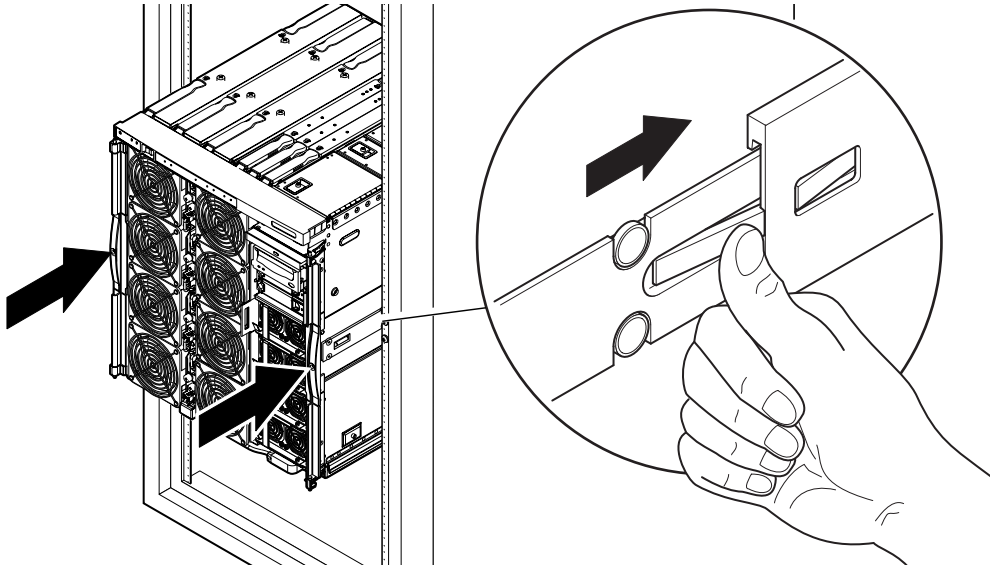

FIGURE 1-11 Pushing the System into the System Cabinet
10. Press the green latches on each slide and push the system into the cabinet (FIGURE 1-11).